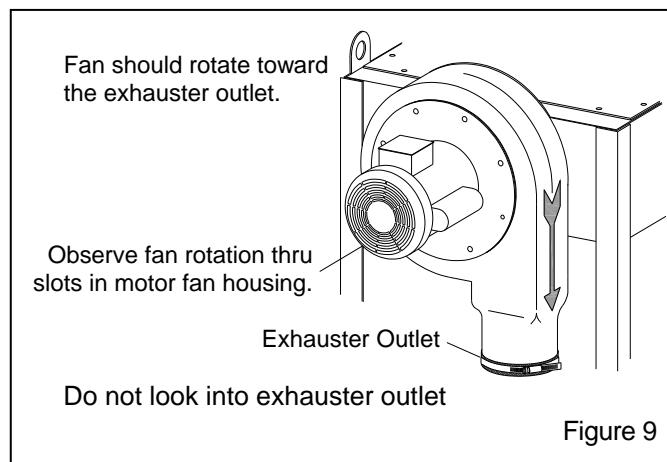

Figure 9
2.10.1 After wiring is completed, observe the following warning and check the motor rotation. To check rotation, jog the starter (momentarily turn switch ON and OFF). This causes the motor to rotate slowly. Look through the slots in the motor fan housing, where rotation of the fan can easily be observed. Proper rotation is indicated by the arrow on the exhauster housing; the fan should rotate toward the exhauster outlet as shown in Figure 9.